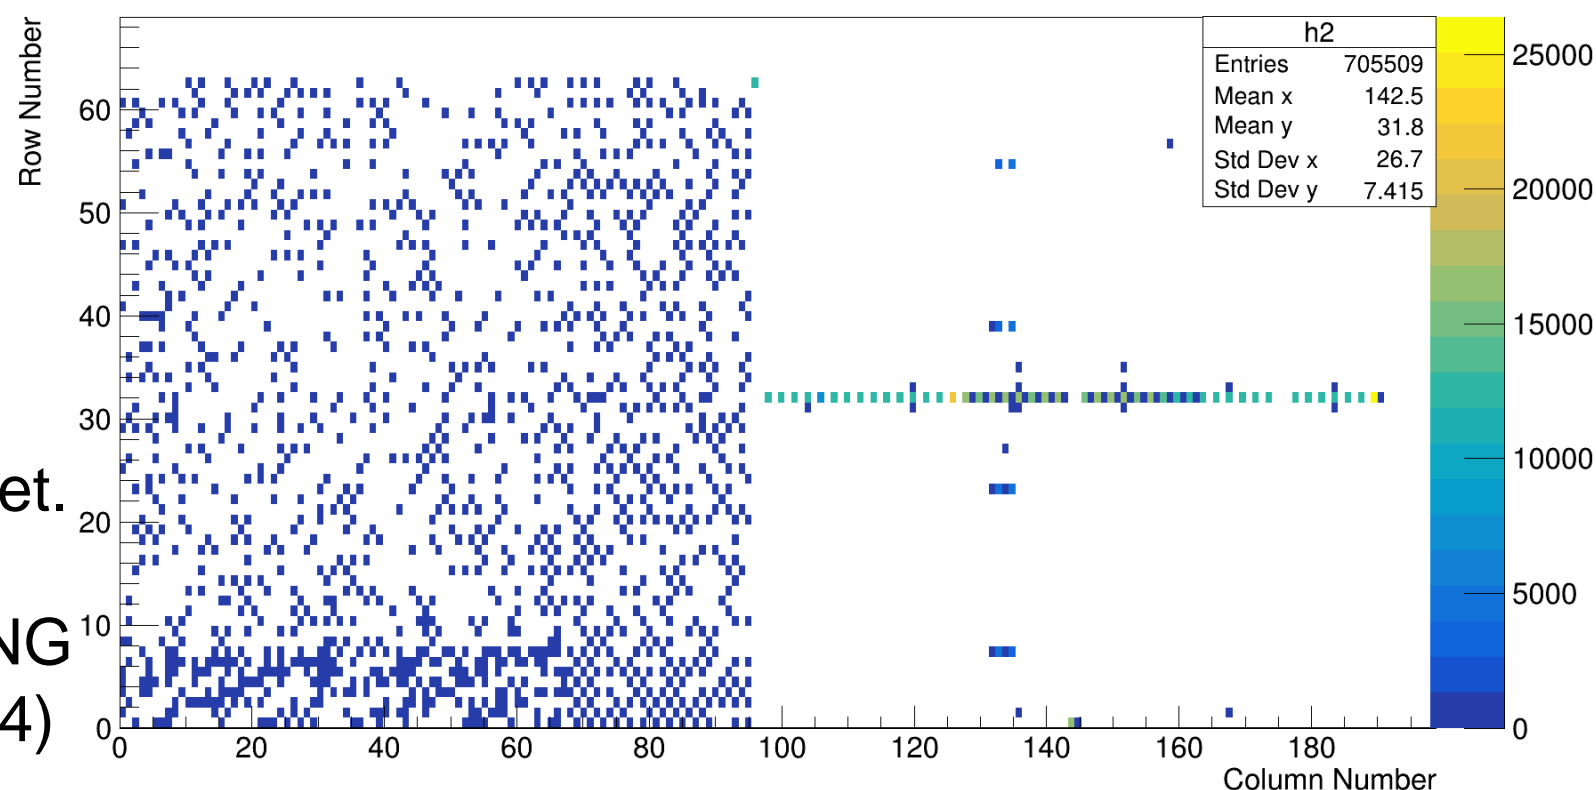

Fig2 LVDS DATA from Sr.90 source
- Fig2 shows the hit map of desk lamp shines to the chip.